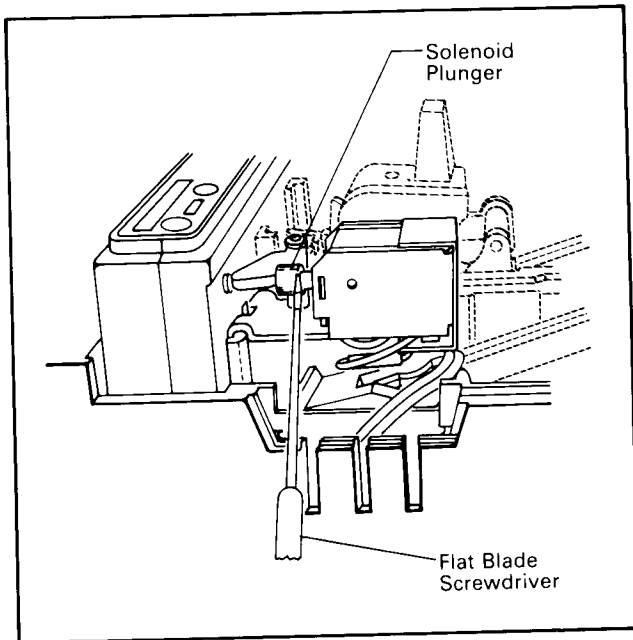

Fig. 2-6. Testing Operation of Solenoid Plunger
- b. Position a small flat-blade screwdriver (Fig. 2-6) under the head of the solenoid plunger. Pry the plunger free from the seated position inside the solenoid and check that circuit breaker trips.